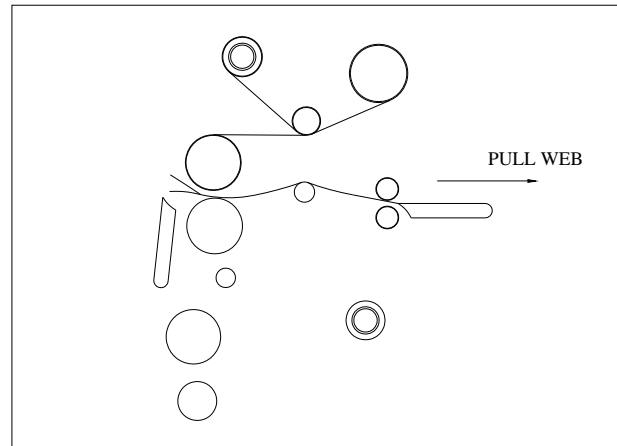

FIGURE 31
6. Carefully grab hold of the web (top and bottom film), from the front operating position and pull towards you (Fig. 31).